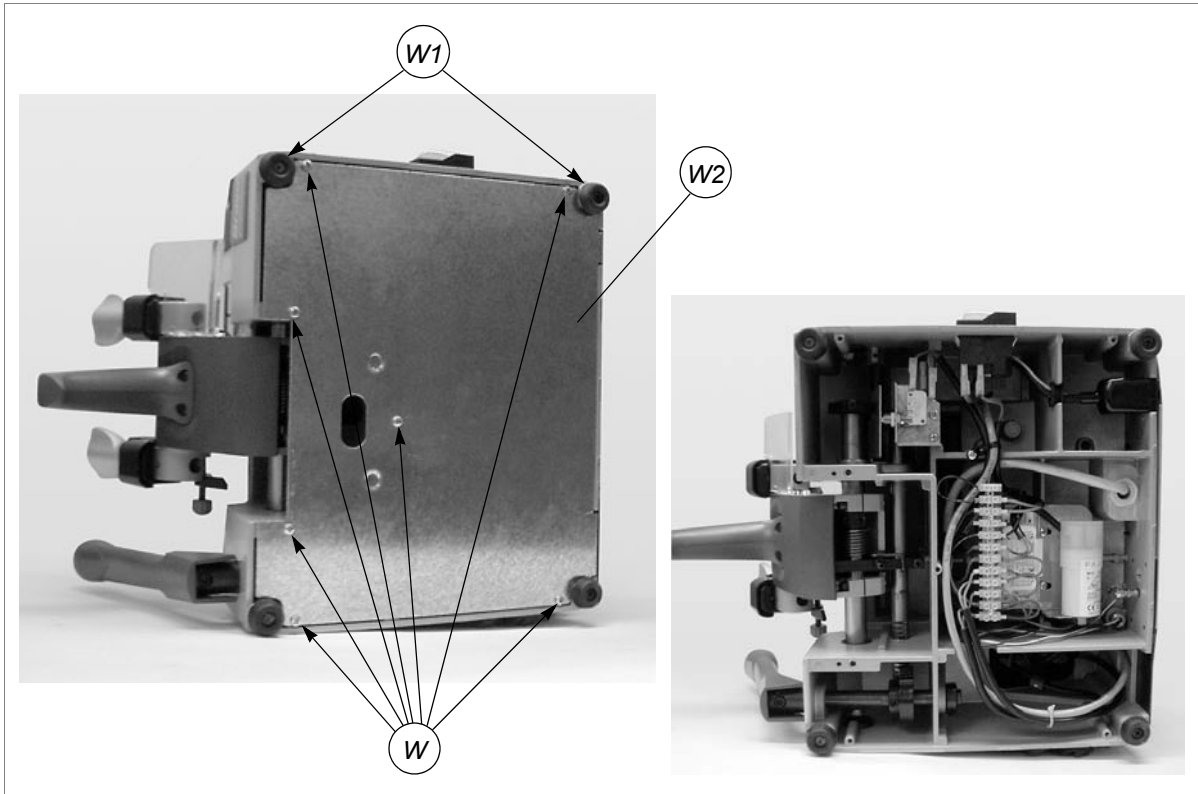
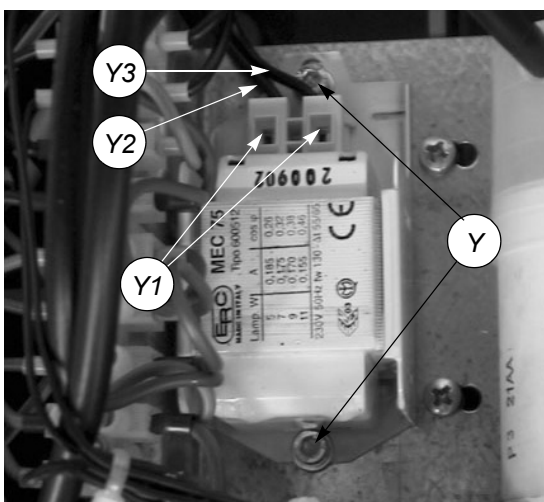

Fig. 32
Fig. 35
- 4) Loosen the 7 screws (W) and 2 feet (W1) and remove the bottom safety plate (W2) (fig.32).
- 2) Fit the new condenser and fix with the washer (Z1) and nut (Z).
- 6) Replace the bottom safety plate, fix with the 7 screws (W) and 2 feet (fig. 32, page 24). Fit the swarf tray.
- 1) Loosen the 2 screws (Y) and remove the reactor (fig.35).
- 4) Place the new reactor in its seat and secure with the 2 screws (Y).
- 5) Replace the bottom safety plate and fix with the 7 screws (W) and 2 feet (W1) (fig. 32, page 24). Fit the swarf tray.
- 9) Replace the bottom safety plate and secure with the 7 screws (W) and 2 feet (W1) (fig. 32, page 24). Fit the swarf tray.
- 5) Loosen the 7 screws (W) and 2 feet (W1) and remove the bottom safety plate (W2) (fig.32, pag.24).